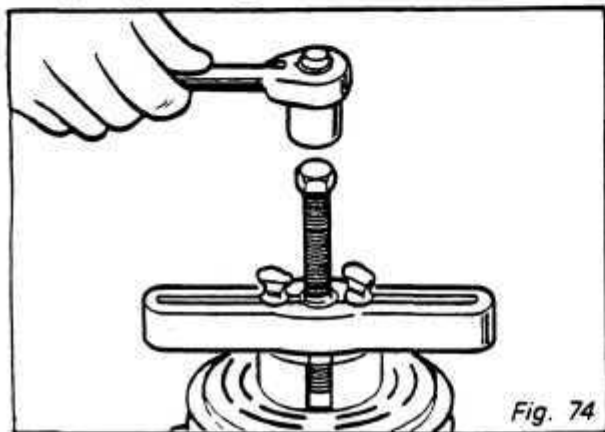

Fig. 74
- Turn puller center bolt clockwise using $\frac{3}{4}$ " socket until rotor pulley is free. *Figs. 74 - 75*